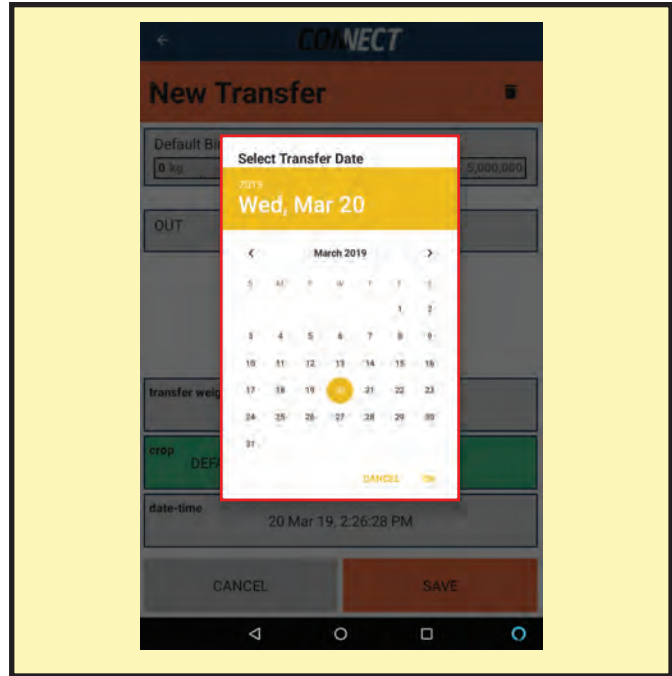
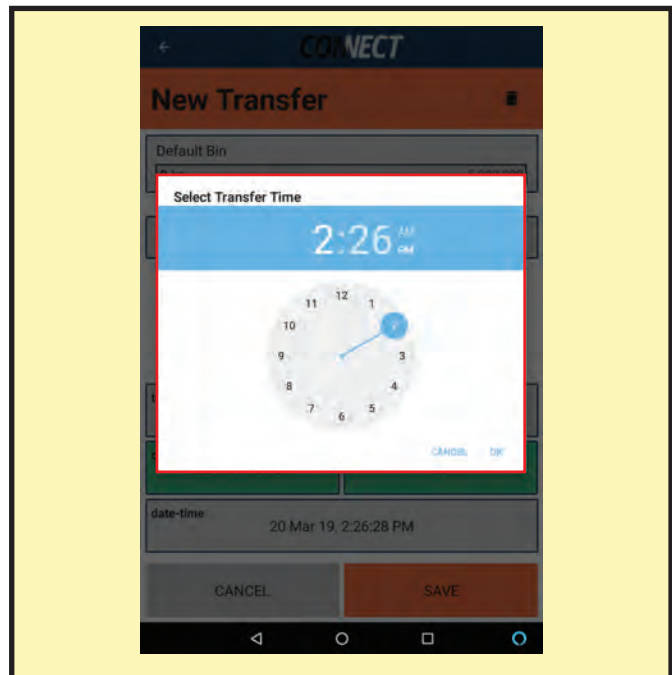

FIG. 67 TRANSFER DATE
FIG. 68 TRANSFER TIME
9. Touch Start Date-Time and End Date-Time to edit their times. See "FIG. 67 Transfer Date" and "FIG. 68 Transfer Time" for date-time instructions.